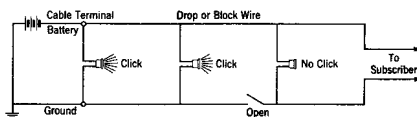

FIGURE 6. Test for Locating an Open
4.02 *Common Battery Circuits—Locating Opens in the Drop and Block Wire Plant*—To locate an open in the drop or block wire plant, isolate the fault by making successive tests at different points in the line with the hand test set. See Figure 6.